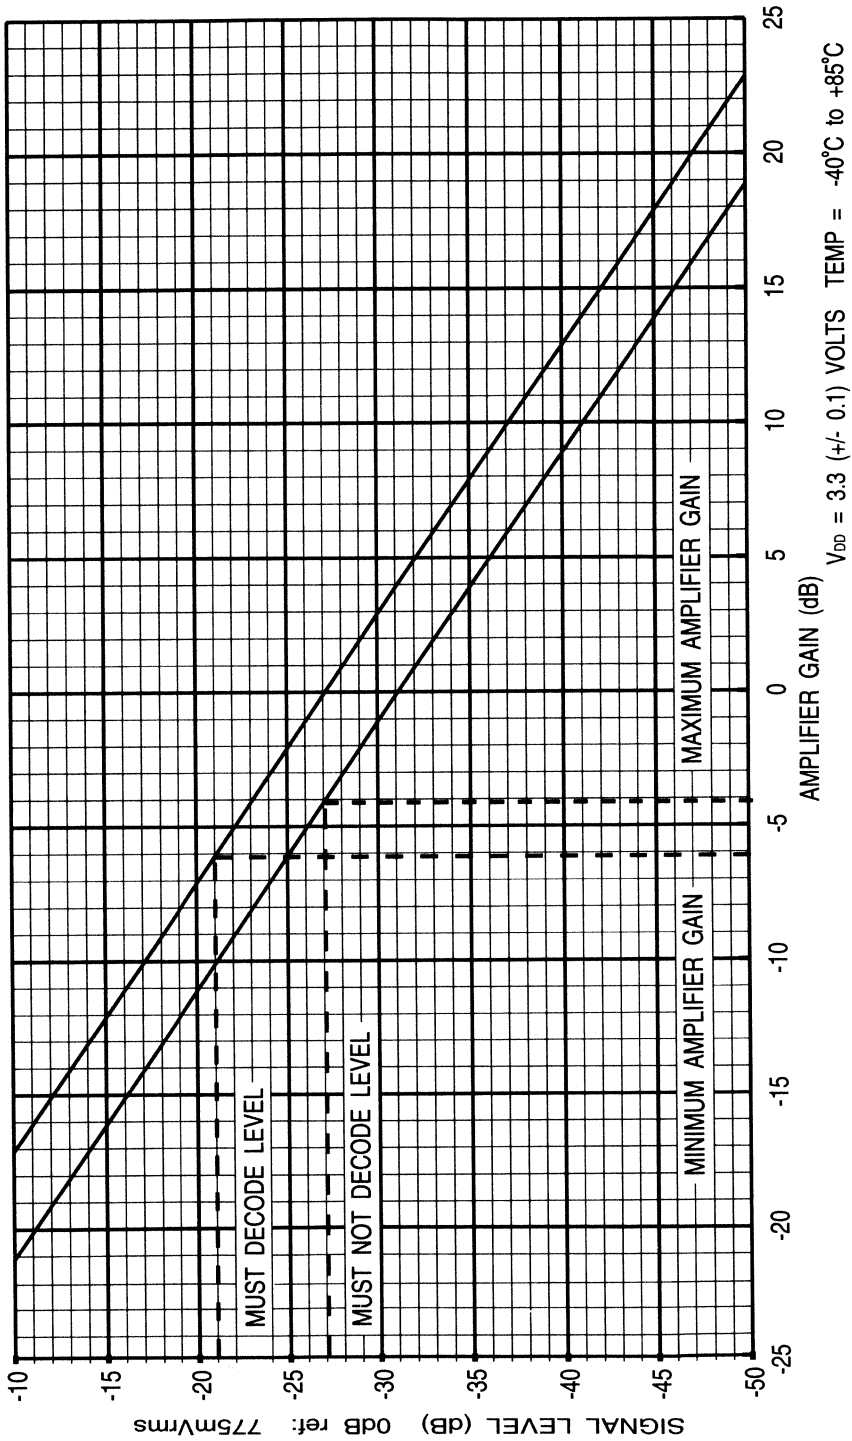

Fig.4 Input Gain Calculation Graph
9	<p>Signal In (+): The positive and negative signal inputs to, and the output from, the input gain adjusting signal amplifier. Refer to the graph in Figure 4 for guidance on setting</p>
1. The values of the Input Amp gain components illustrated are calculated using the Input Gain Calculation Graph (Figure 4). Whilst calculating input gain components, for correct operation, it is recommended that the values of resistors  $R_1$  and  $R_4$  are always greater than, or equal to,  $100k\Omega$ .
With reference to the graph in Figure 4, the following steps will assist in the determination of the required gain/attenuation.
It is recommended that the designed gain is near the centre of the calculated range. The graph in Figure 4 is for the calculation of input gain components for an FX631 using a  $V_{DD}$  of 3.3 ( $\pm 0.1$ ) volts.